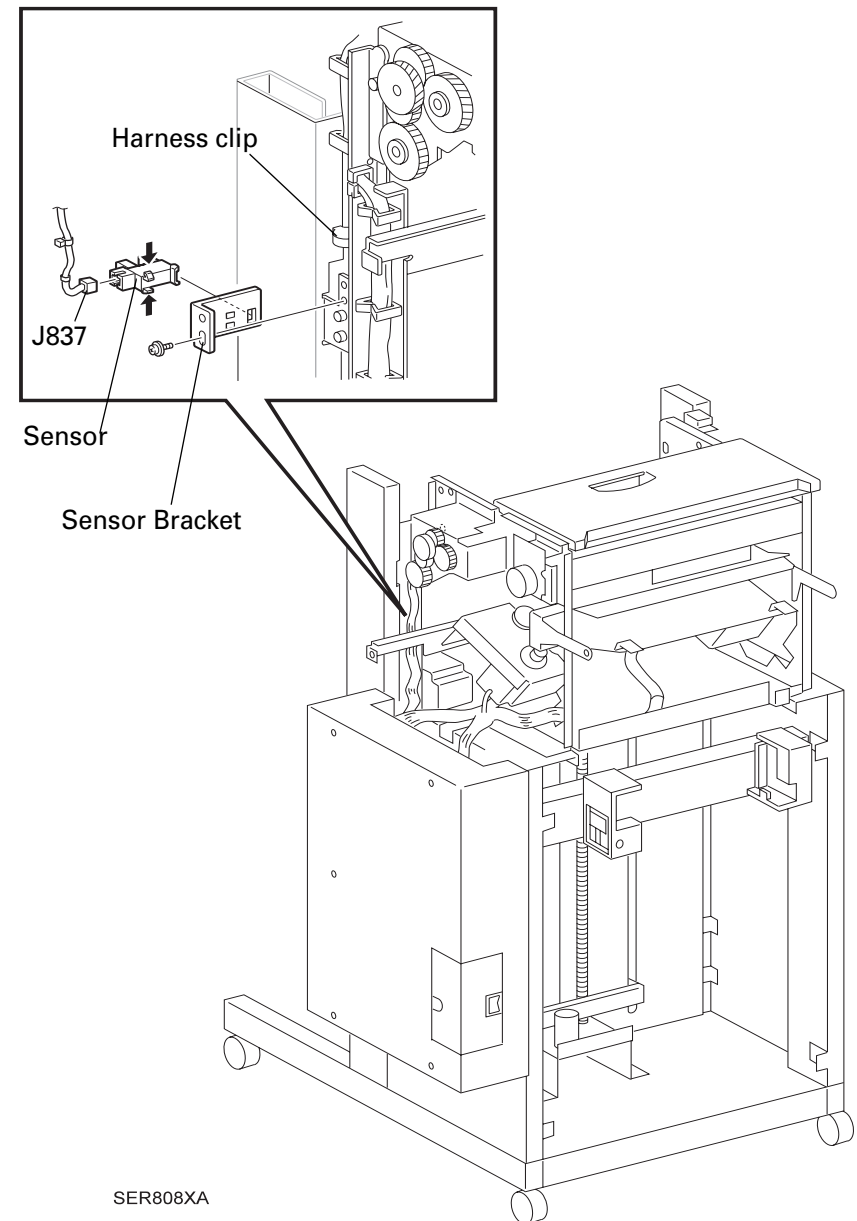

Figure 3-19. Stacker Tray ID Sensor
1. Place the Stacker Tray ID Sensor as shown in the Figure 3-19 and install the Sensor to the Bracket.